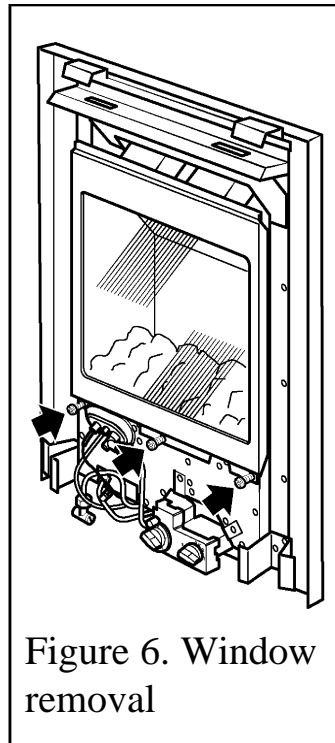

Figure 6. Window removal
- Unscrew and remove the three spring loaded window fixing screws and washers from the base of the window frame (See figure 6). Keep the screws and washers in a safe place.